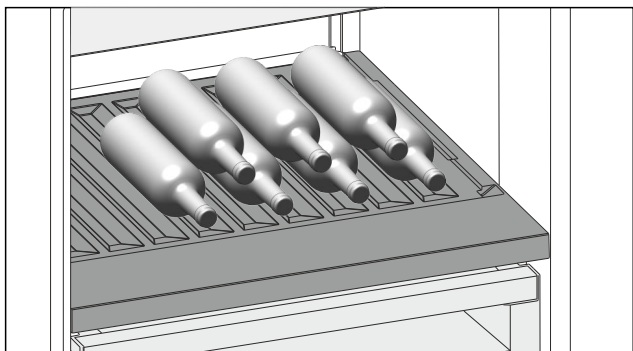

Fig. 118
- ▶ Insert the bottles facing backwards towards the rear wall. (see Fig. 118)